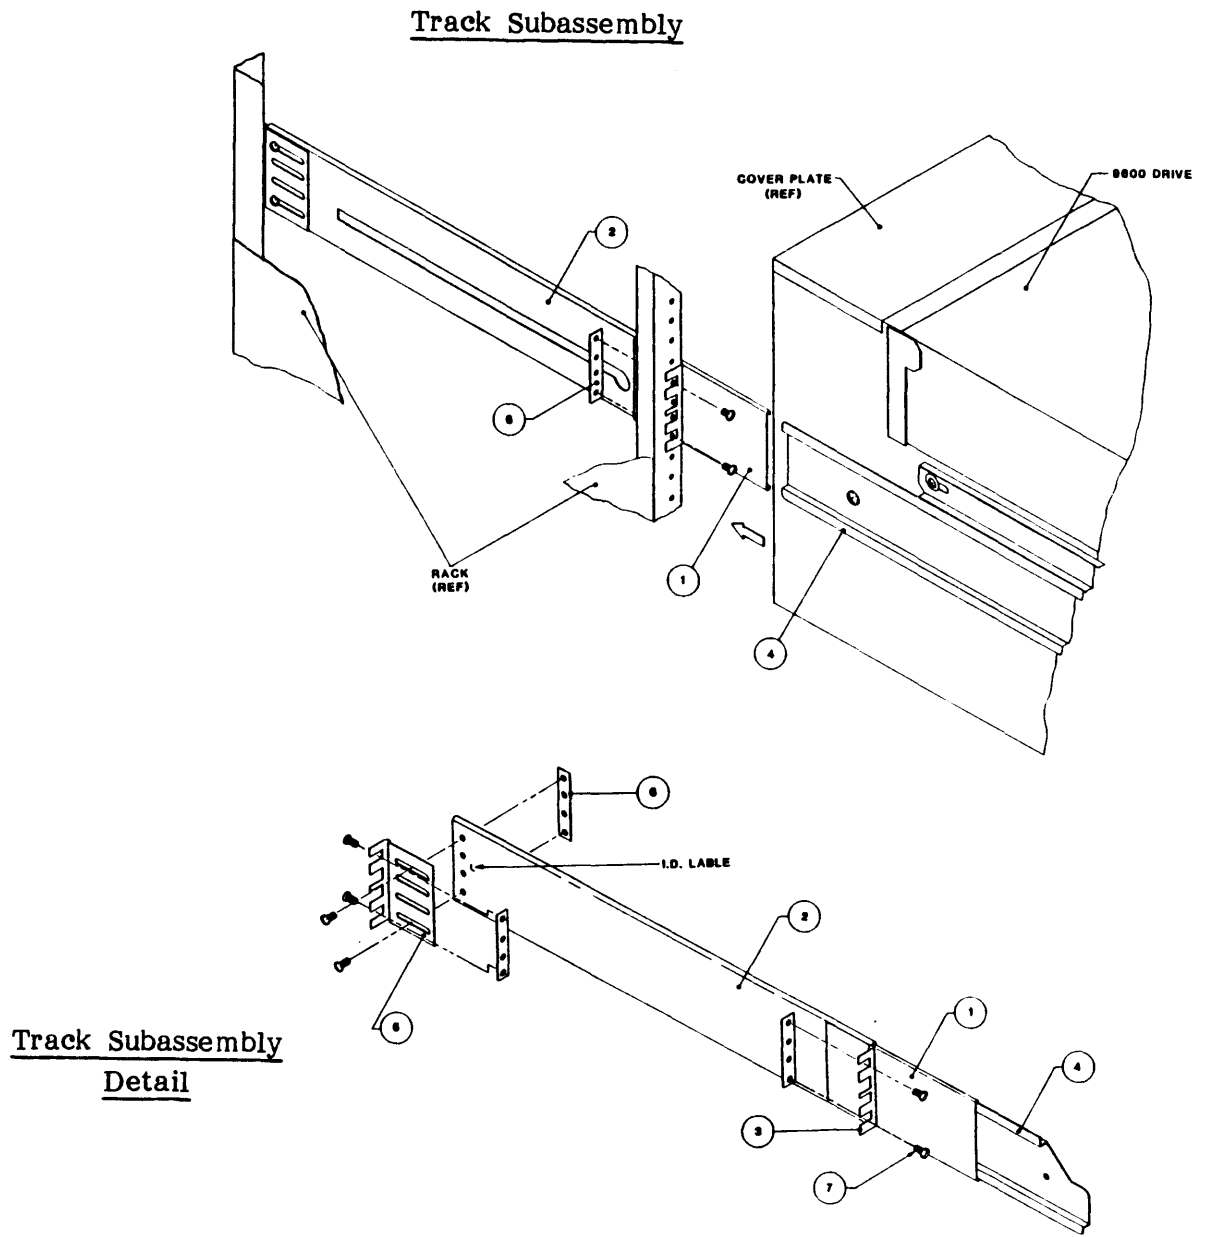

Figure 2-7. Track Subassembly
- A. Referring to Figure 2-7, Install the Right Track Assembly on the right side of the 19-inch Rack as follows:
1. Using the 10-32 Slotted Screws (7) and Nut Plates (6)\* provided, loosely assemble an Adjustable Mounting Bracket (5) to the rear of the Right Track Assembly.
3. Aligning the bottom of the Fixed Mounting Bracket (3) at the 2-inch mark on the front of the 19-inch Rack, and using the 10-32 Screws (7) provided, mount the Fixed Mounting Bracket (3) to the front of the 19-inch Rack, and mount the Adjustable Mounting Bracket (5) (loosely attached to the rear of the Center Track) to corresponding holes in the the rear of the 19-inch Rack. Level the Track and tighten all Screws.